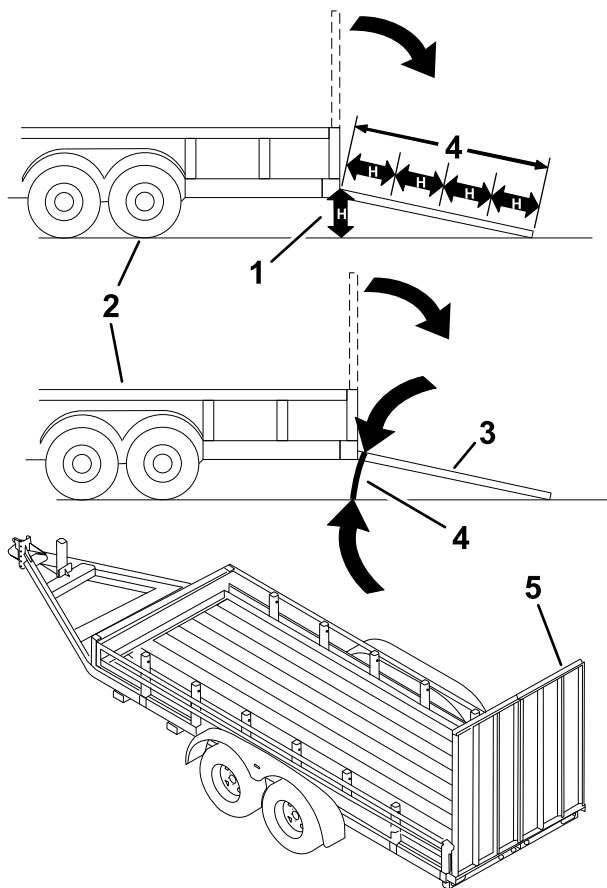

Figure 59
Loading a machine onto a trailer or truck increases the possibility of tip-over and could cause serious injury or death (Figure 59).
3. Lower the ramp (Figure 59).